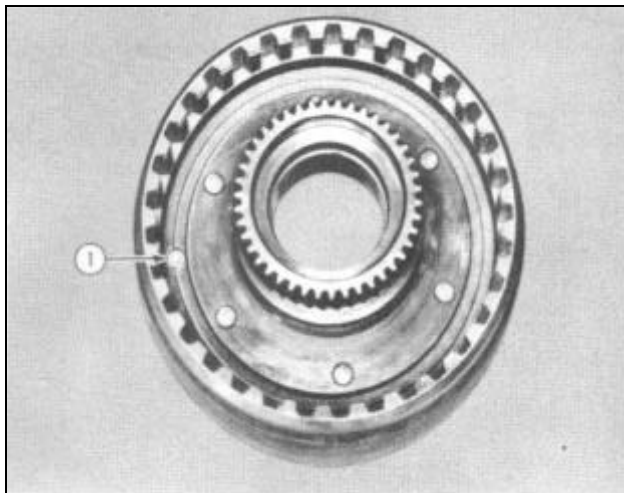

FIGURE 119
**NOTE: A centrifugal check (bleed) valve is installed in the back wall of the multiple disc clutch cylinder in the low brake drum, Figure 119. This check valve is not serviced separately.**